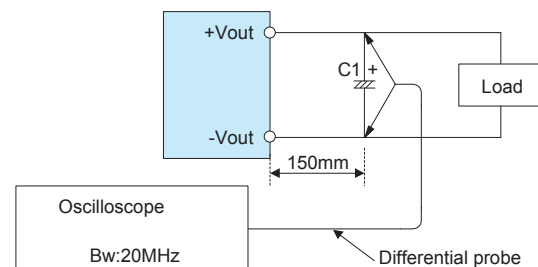

Fig.1.1 Measuring method for Ripple and Ripple Noise
- The measuring method Fig.1.1 is recommended because the output ripple noise may be influenced by measurement environment.